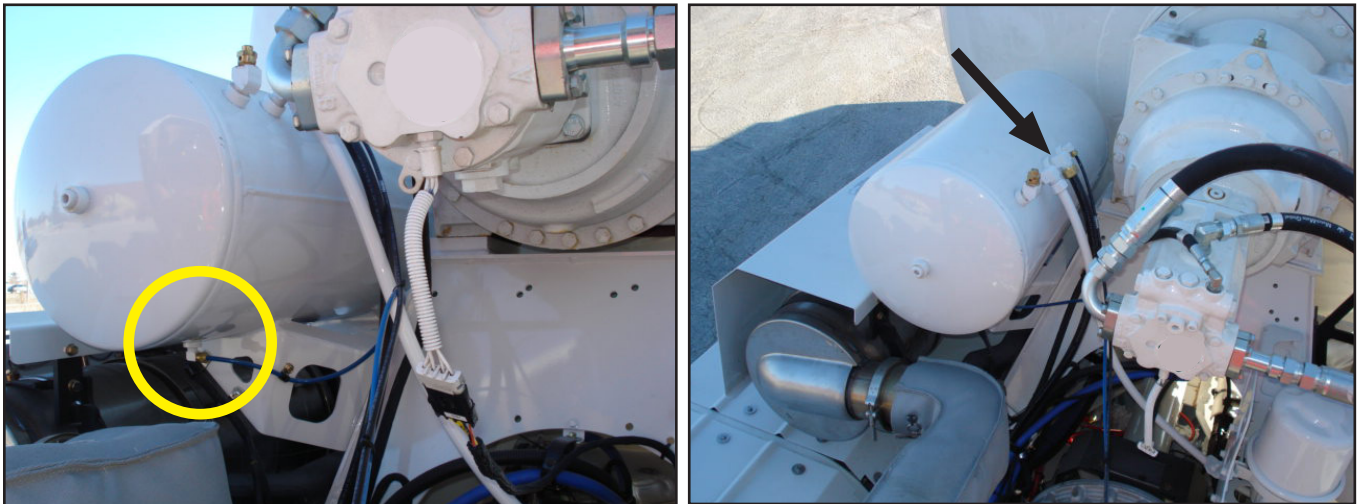

Figure 1: Disconnect the air lines from the air system.
5. Disconnect and retain the air lines (see Figure 1).
14. Reconnect the air lines to the air tank (see Figure 1). Follow the location and direction of the marks you made on the fittings before disassembly.